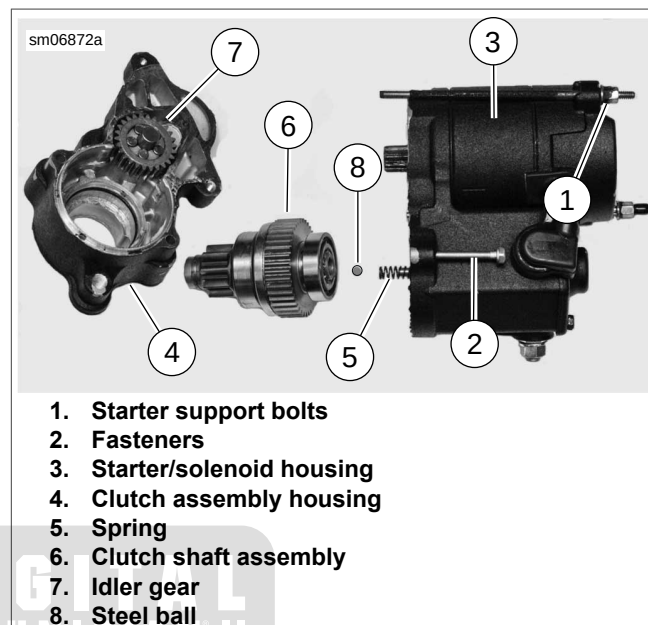

Figure 6-22. Starter Drive Housing and Clutch Shaft
1. See Figure 6-22. Loosen the two long starter support bolts (1).
2. Remove the two fasteners (2) and separate the clutch assembly housing (4) from the starter/solenoid housing (3).
3. Save the spring (5) from the solenoid plunger shaft.